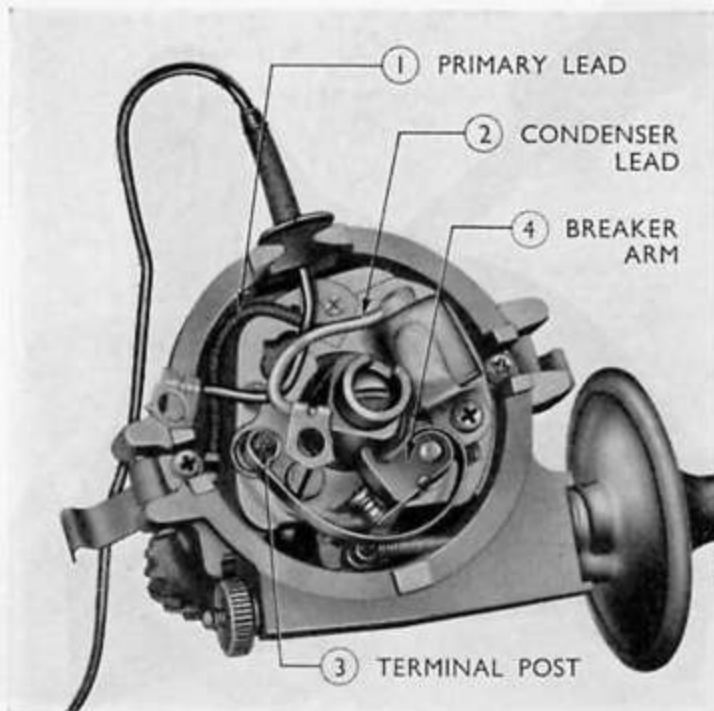

Fig. 23
2. **Locate the fibre washer on the pivot post** and breaker arm terminal post and refit the breaker arm assembly so that the contact points are together (see Fig. 23).